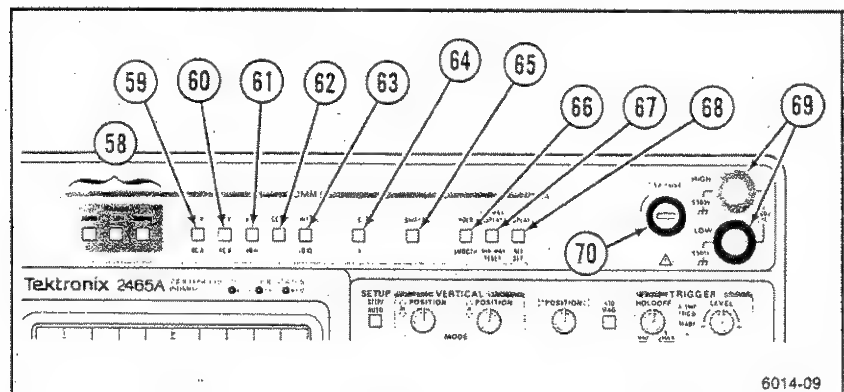

Figure 5-8. DMM controls and connectors.
All DMM controls are momentary push buttons. The buttons alternately select and deselect functions. Refer to Figure 5-8 for the location of items 58 through 70.